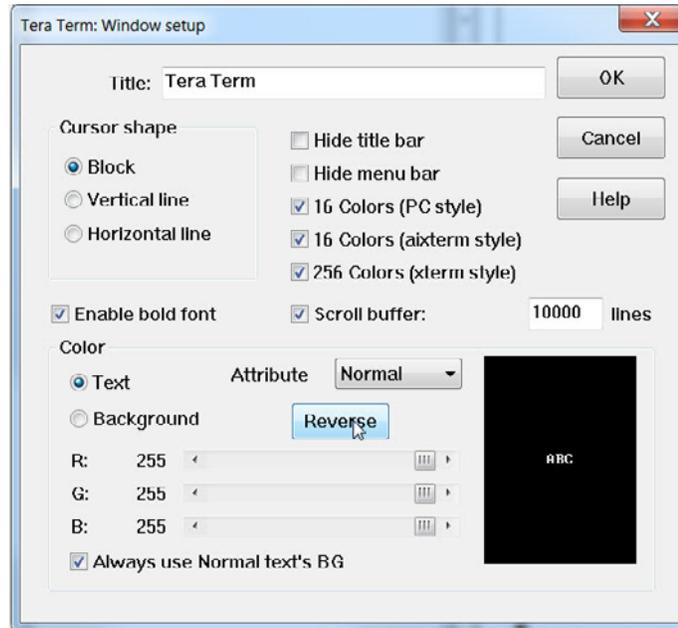

Figure 6-10 • Tera Term Window Setup Dialog Box
7. Click **Setup** and choose **Windows**. The Tera Term: Window setup dialog box appears (Figure 6-10).